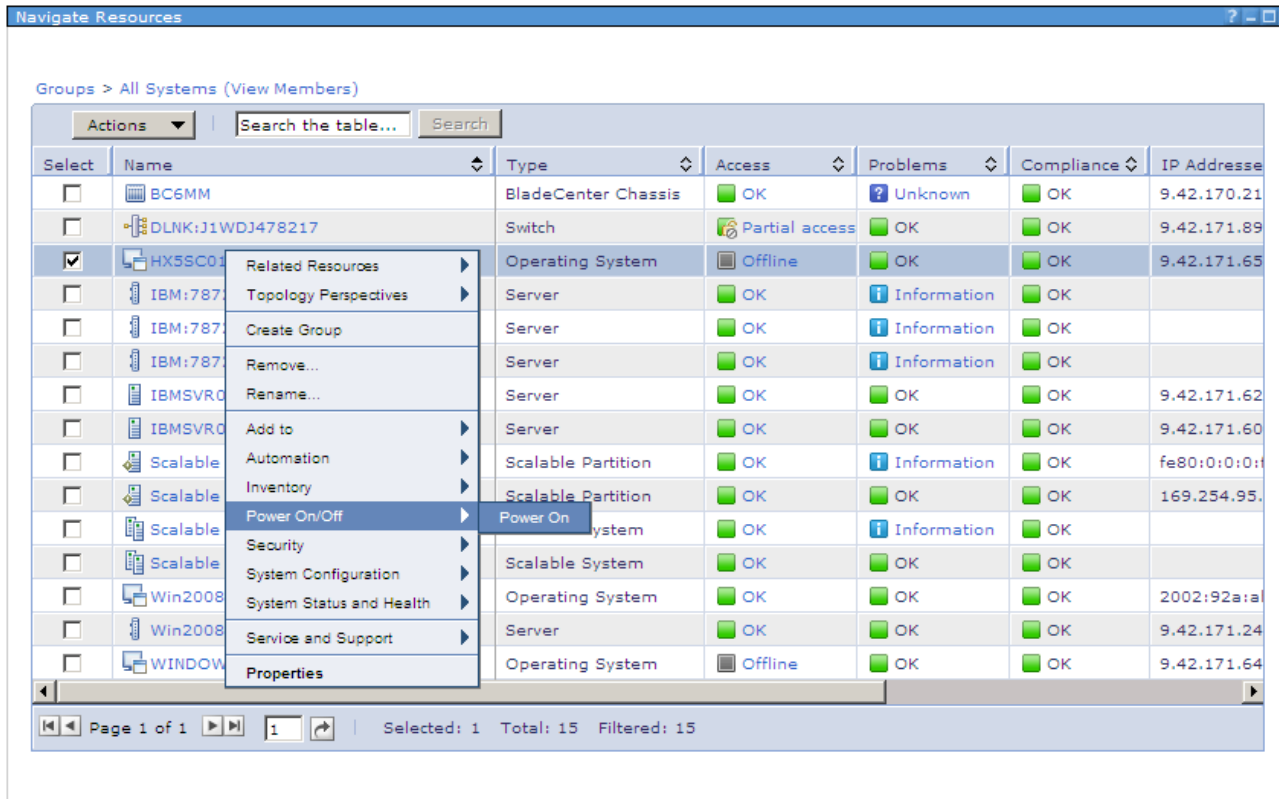

Figure 9-40 Powering on a complex via the operating system object
1. Select **Navigate Resources** → **All Systems** in the Groups (View Members) view. Right-click the respective operating system object and select **Power On/Off** → **Power On**, as shown in Figure 9-40 on page 489.